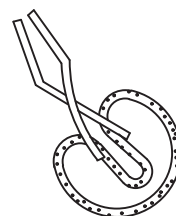

Fig. 3
- (4) When using jigs for fitting seal rings, use the jigs with round edges to avoid damaging the seal rings. (Fig. 3)